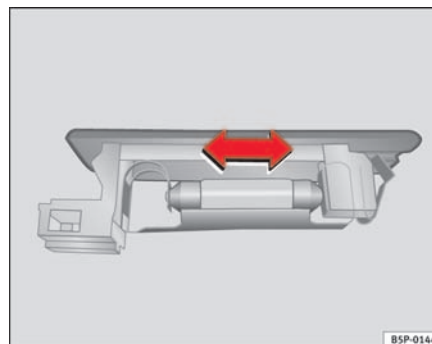

Fig. 196 Luggage compartment light
- Press the lamp sideways and remove it from the allotment ⇒ fig. 196. ■